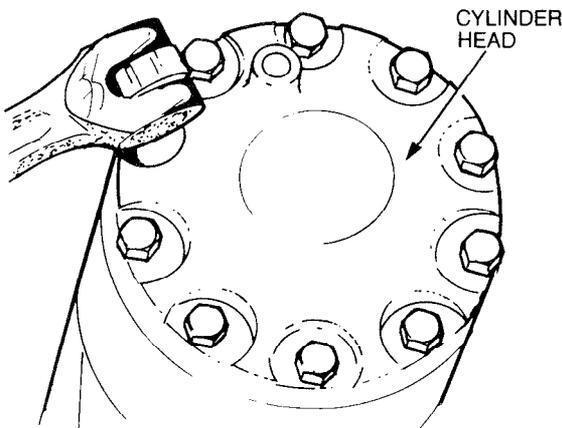

Figure 299 — Cylinder Head — Removal
- e. Remove the ten bolts and washers securing each cylinder head to the housing, then remove the cylinder heads and discard the sealing rings (see Fig. 299).